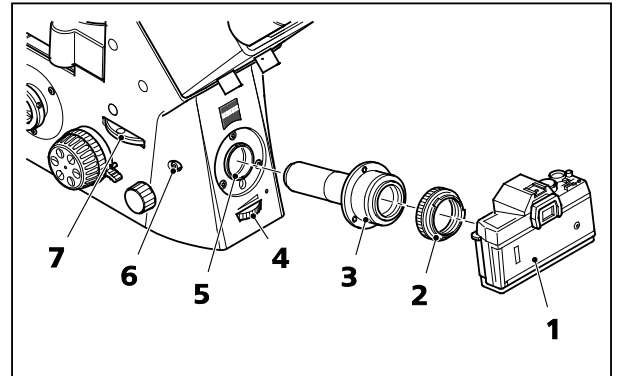

Fig. 162 Connection of a SLR camera
- Remove dust cover or camera lens from the camera housing (Fig. 162/1).
- Attach appropriate T2 adapter (Fig. 162/2) to the camera housing.
- Remove the dust cover from the V200 T2 2.5x adapter for SLR (Fig. 162/3).
- Attach the pre-mounted camera system to the frontport (Fig. 162/5), align it horizontally and tighten clamping screw (Fig. 162/6) using the 3 mm ball-headed screwdriver.
- After switching the beam path (Fig. 162/7) from visual observation to the frontport, 100 % of the light is now available for the camera.